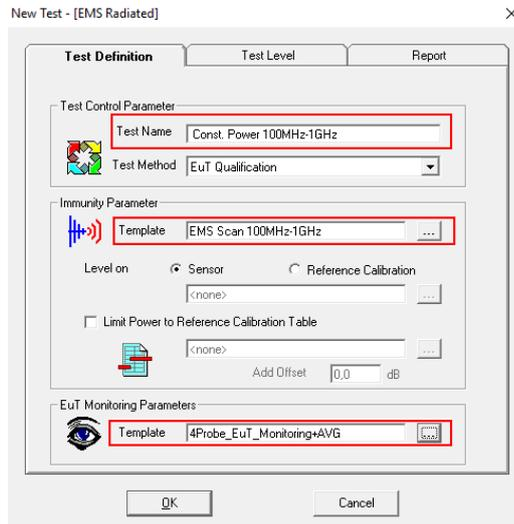

Figure 11: EMS radiated Test setup "Const. Power 100MHz-1GHz"
- EMS radiated Test added, named "Const. Power 100MHz-1GHz", see Figure 11